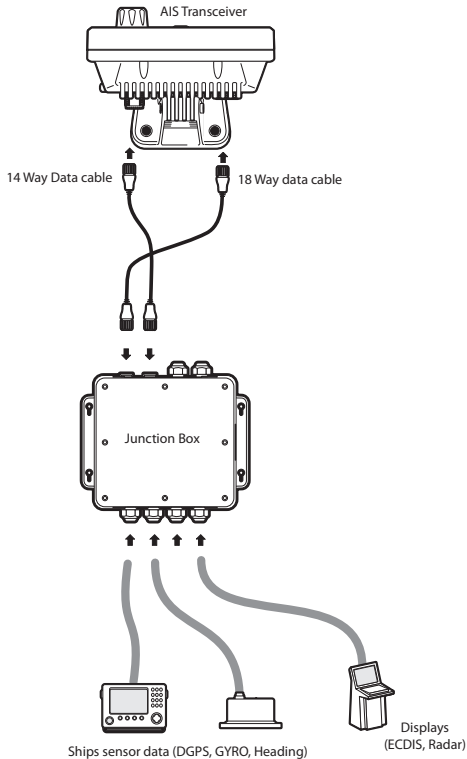

Figure 34 Connecting external equipment
- Figure 34. shows an example of how external equipment could be connected through the junction box accessory.